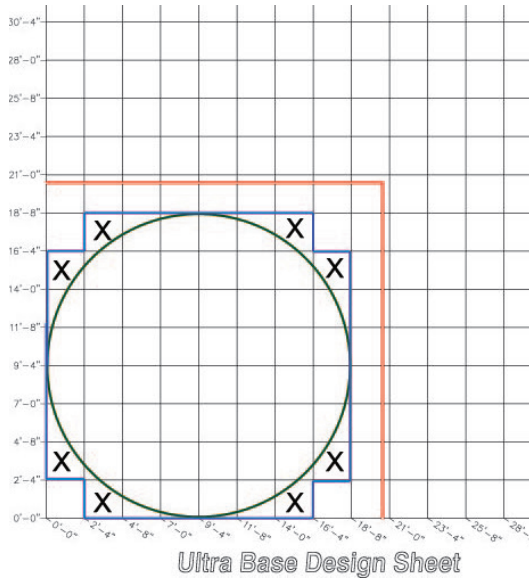

Figure 4.3
- Count the panels that can be double cut, divide it by two, then put the amount in the box. (Figure 4.3) NOTE: The panels that can be double cut are marked with an “X”